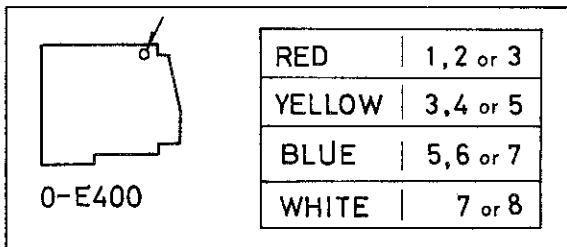

FIG 3-1 E200-400 MATCHING
F400 has a color marking of ^①Red ^②Yellow ^③Blue ^④White at the spot shown in Fig3-1, and F200 has a digit marking of from 1 to 8, according to their operating characteristics.
F200 and F400 should be used in combination shown in Fig3-1.